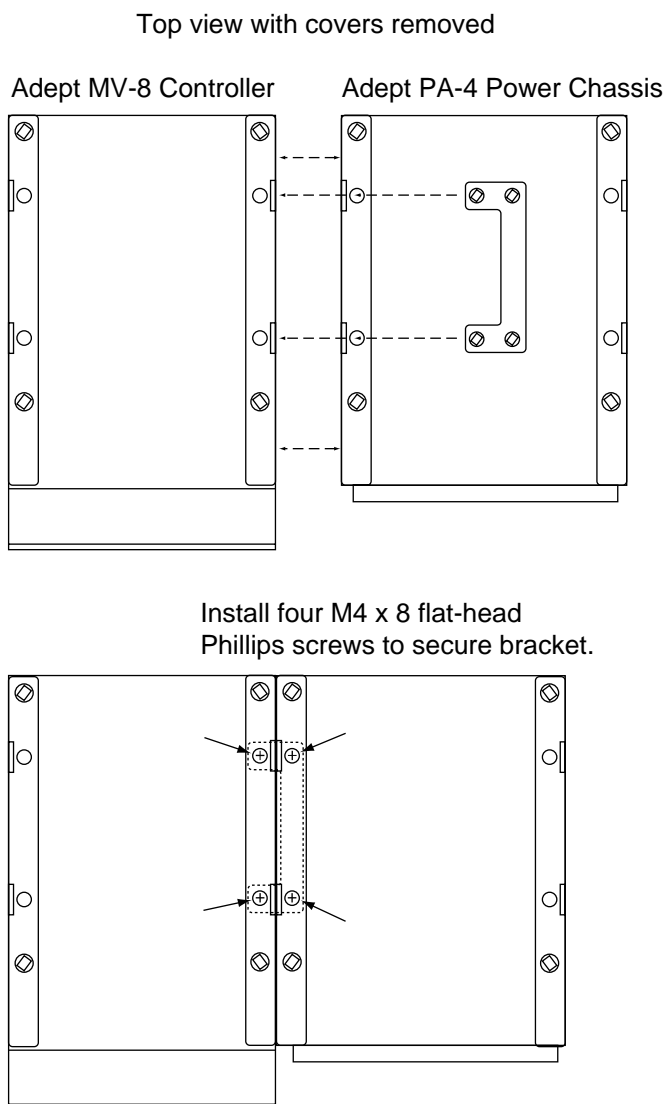

Figure 2-3. Joining the Power Chassis and Controller at the Top
1. Place the two units next to each other. Turn off power to each unit and disconnect the power cord. Remove the top cover from both. See Figure 2-3